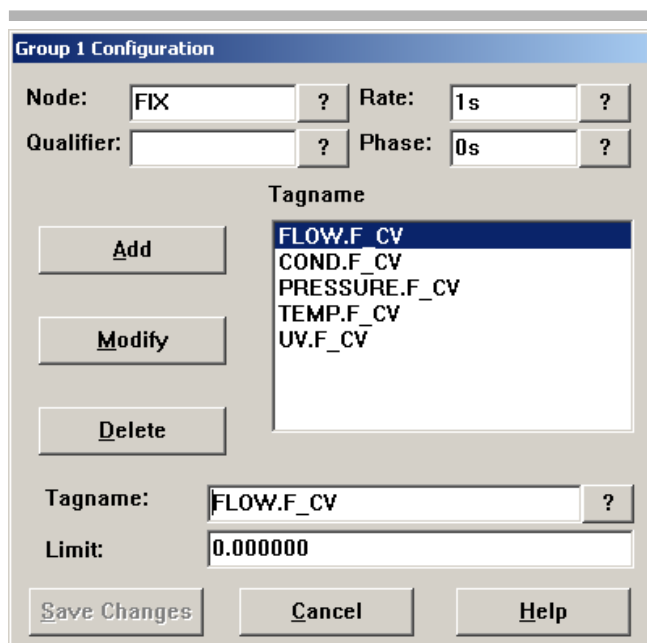

Fig 9.
- 4.2 From the menu, select **Group → Add** to open the configuration screen (Fig 9).
- 4.9 When completed the Configuration screen should look like Figure 9. Click **Save Changes** to exit.